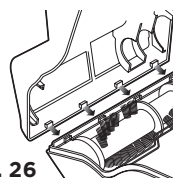

Fig. 26
- 3 To reassemble, insert the tabs on the front edge of the brushroll housing into the matching holes in the top half and tilt it back down until it clicks into place. (Fig. 26)